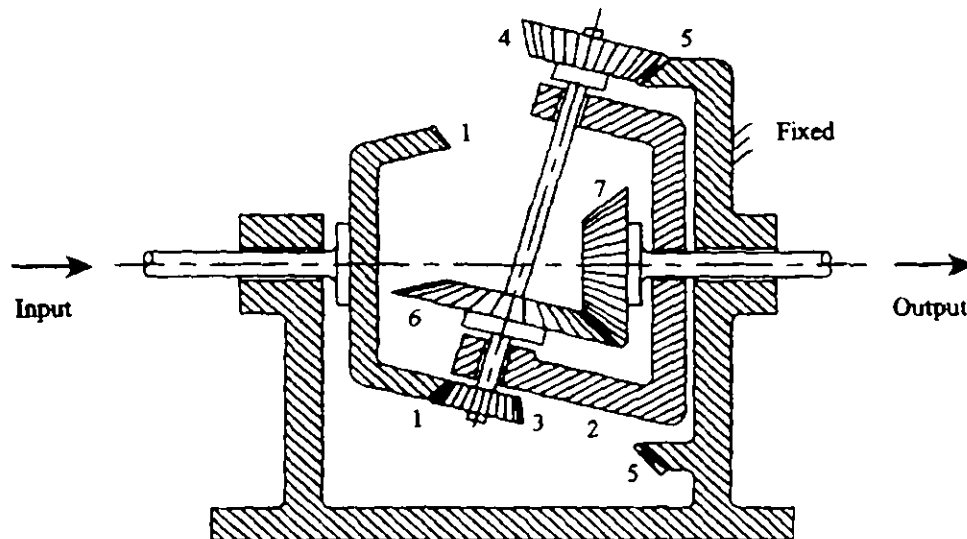

Figure P.3 (not to scale)
3. For the planetary gear train shown in **Figure P.3**: